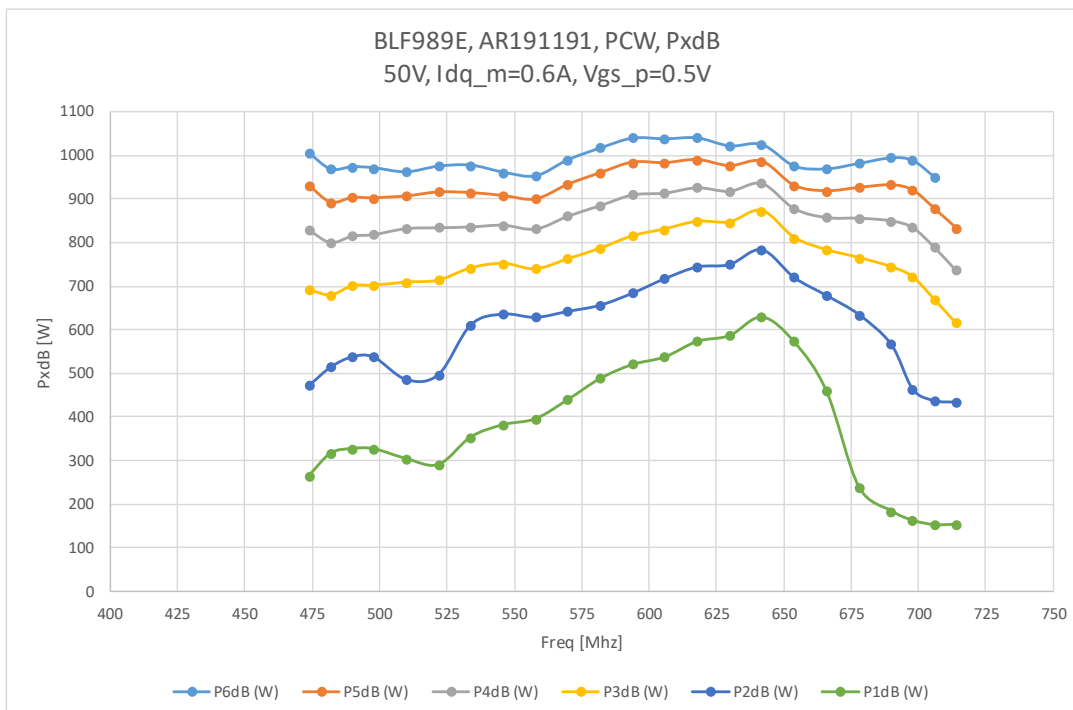

Figure 8 Pulsed CW, PxdB Vgs_p=0.5V
- Figure 8 Pulsed CW, PxdB Vgs_p=0.5V 9